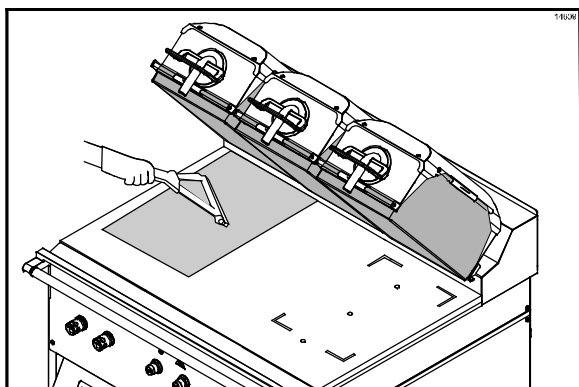

Figure 17
9. Using the grill squeegee, gently squeegee out air bubbles, making sure not to crease or fold the release sheet. (See Figure 17.)